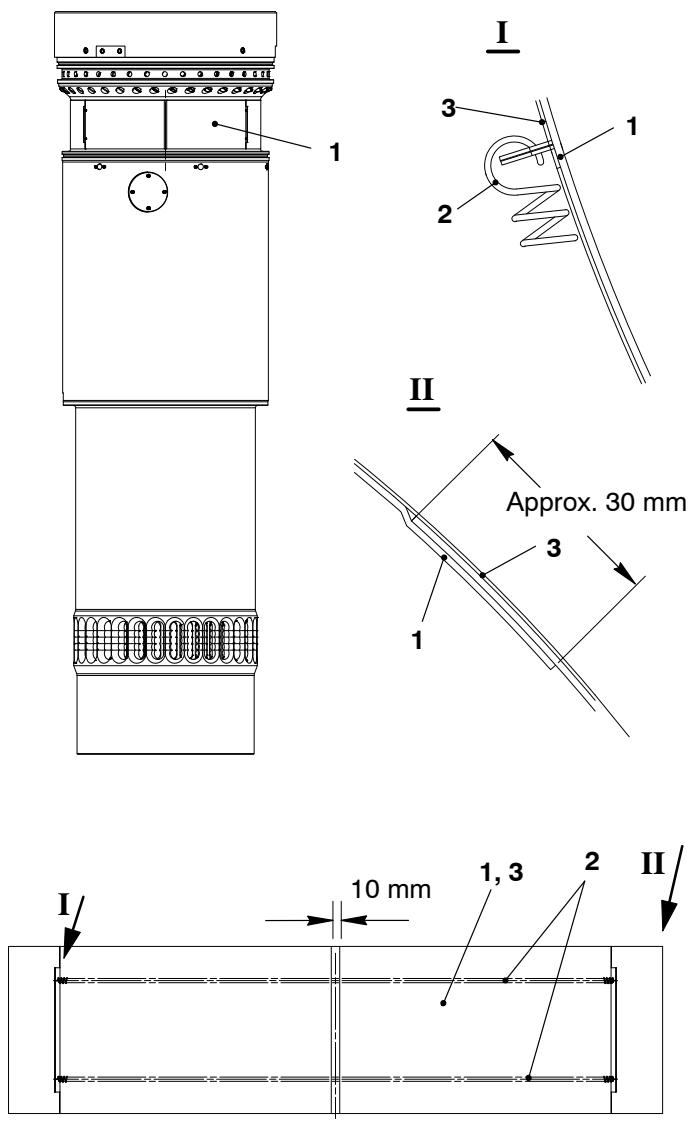

Fig. 7
- Use the assembly tool (94233) to unhook all the tension springs (2) of the insulation bandage (1), Fig. 7.
- Remove the plate (3).
- Remove insulation bandage (1).
- Wrap the insulation bandage (1, Fig. 7) around the water channel on the cylinder liner.
- Wrap the plate (3) over the insulation bandage (1).
- Use the assembly tool (94233) to hook in the tension springs (2).